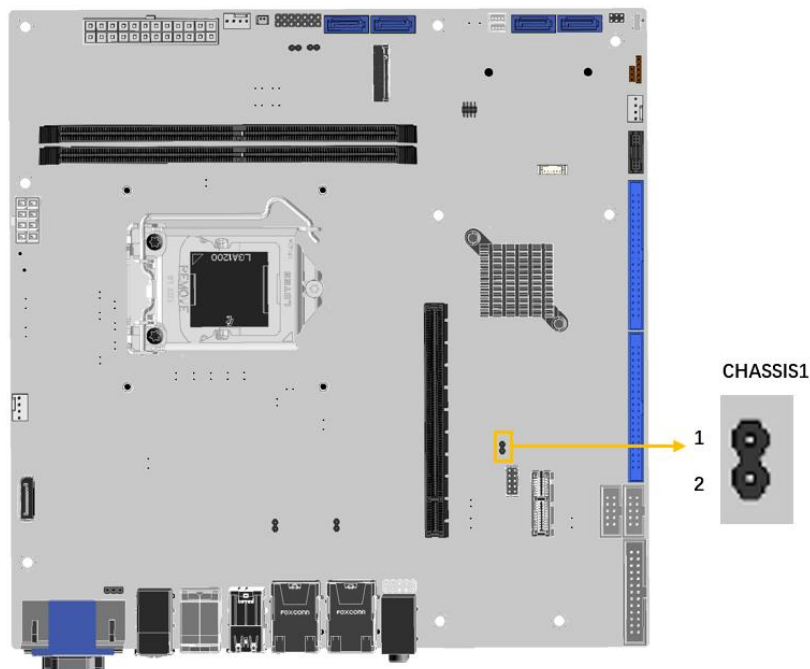

Figure 3-11: Chassis Intrusion Connector Location
- CN Location:** See **Figure 3-11**